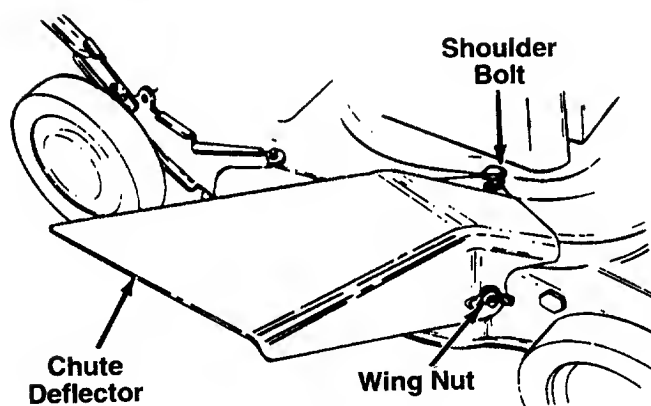

FIGURE 3.
2. Attach the side chute deflector by first placing it over the rear bolt in the side of the deck. Then slide the notch in the top of the deflector around the shoulder bolt on top of the deck. Slide the notch in the side of the deflector around the front bolt in the side of the deck. See figure 3.